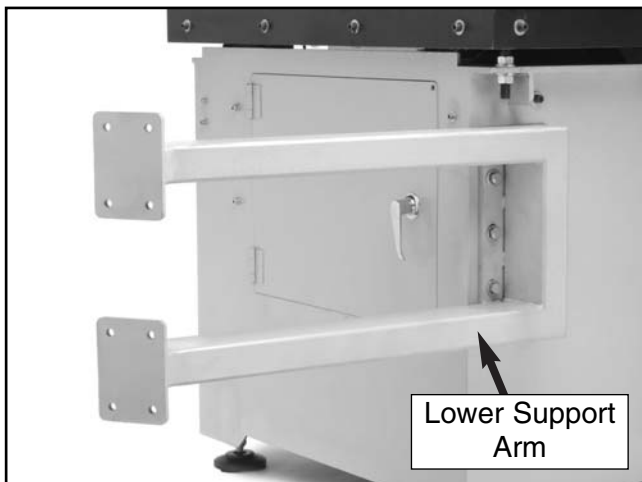

Figure 31. Lower support arm installed.
2. Position the lower support arm over the holes on the side of the motor cabinet and secure it with the bolts and lock washers removed in **step 1**, so the assembly looks similar to **Figure 31**.